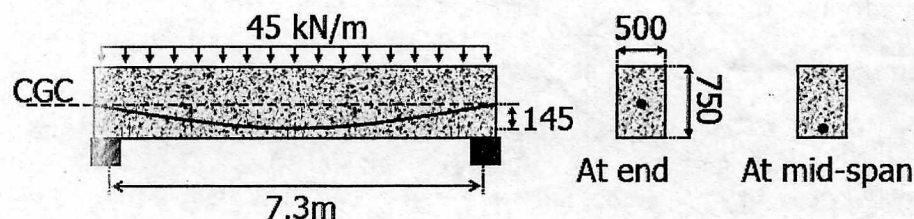

Fig. 2
4. A concrete beam prestressed with a parabolic tendon is shown in the Fig. 2. The prestressing force applied is 1620 kN. The uniformly distributed load includes the self weight. Compute the extreme fibre stress at the mid-span by applying the three concepts. Draw the stress distribution across the section at mid-span. (6)